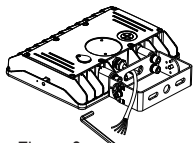

Figure 8
Step 3: Using an Allen key (3/16), mount the Trunnion bracket on the fixture, by tightening the 2 screws provided. (Figure 8)